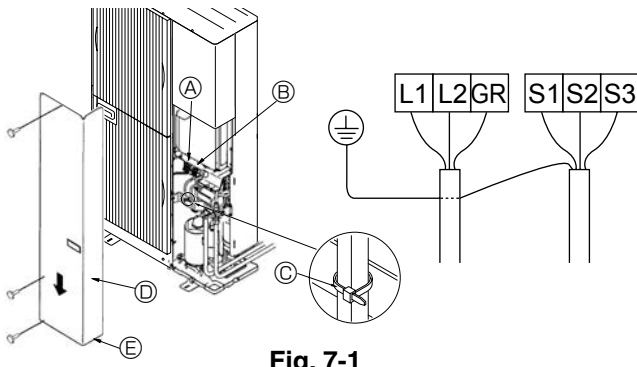
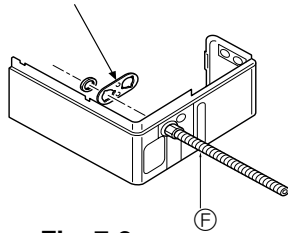

Fig. 7-1
Fig. 7-2
7.1. Outdoor unit (Fig. 7-1) (Fig. 7-2)
- ① Remove the service panel.
- ② Wire the cables referring to the Fig. 7-1.
- ③ Conduit mounting plates (ø22 mm [7/8"]) are being provided. Pass the power supply and signal wires through the appropriate knock-out holes, then remove the knock-out piece from the bottom of the terminal box and connect the wires. (Fig. 7-2)
- ④ Fix power source wiring to terminal box by using buffer bushing for tensile force (PG connection or the like).